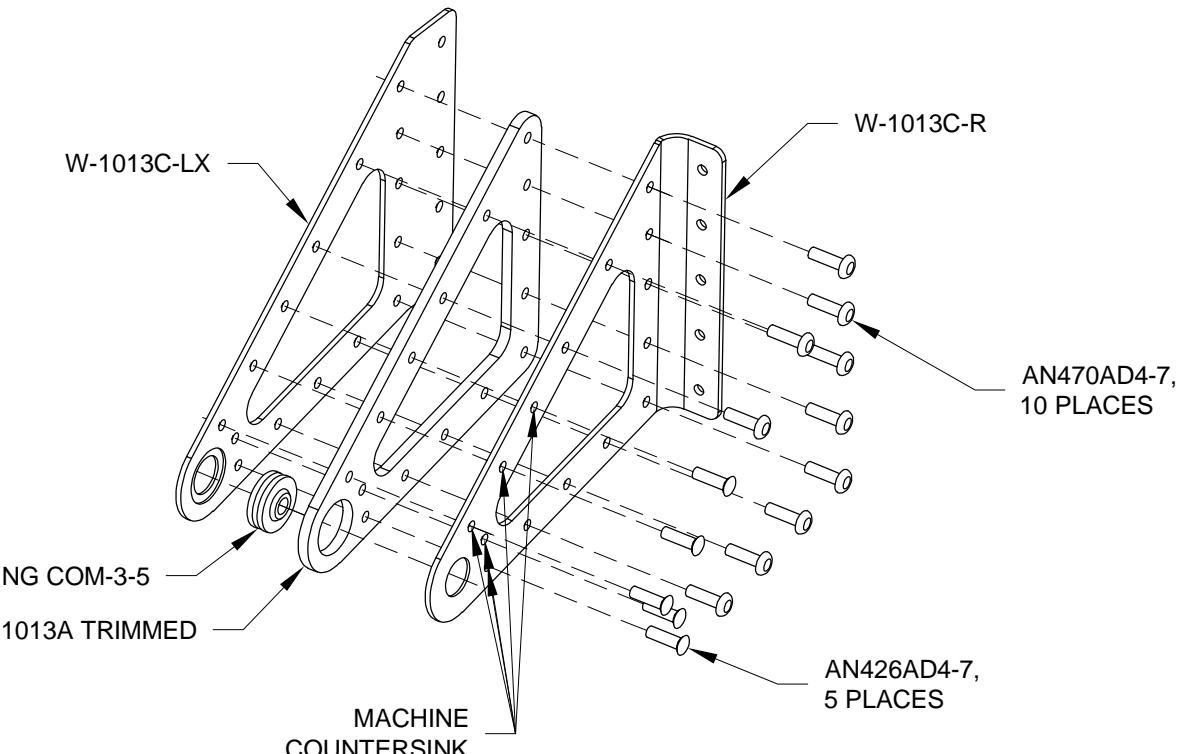

FIGURE 2: W-1014-L OUTBOARD AILERON BRACKET ASSEMBLY
Step 4: Press a BEARING COM-3-5 into both W-1013A TRIMMED Aileron Hinge Bracket Spacers as shown in Figure 2. Use a 7/16 inch, 3/8 inch drive socket to push and a 9/16 inch, 3/8 inch drive socket to push into. Squeeze with a vise or c-clamp.
Step 6: Rivet the assemblies together using the rivet callouts shown in Figure 2. Set the rivets in a random pattern to inhibit warping in the final assemblies. Set both the W-1014-L and W-1014-R Outboard Aileron Bracket Assemblies aside, to be installed after the W-1002 Top Inboard Wing Skin and W-1003 Top Outboard Wing Skin are riveted in place. This will allow access to buck the outboard-most rivet on the upper flange of the W-1007A-L Rear Spar Web.